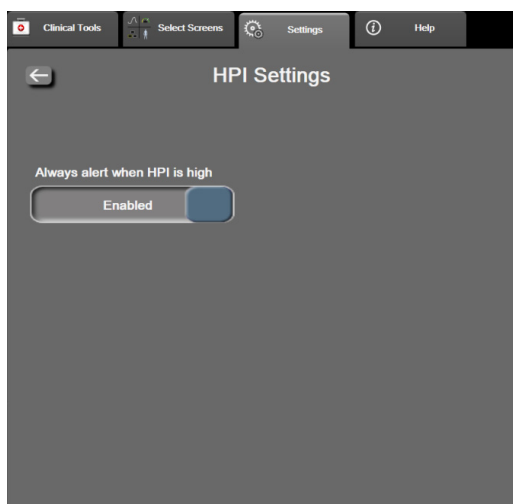

Figure 13-4 Parameter settings - Hypotension Prediction Index
- 5 Touch the **Always alert when HPI is high** toggle button to switch to **Disabled**. See figure 13-4